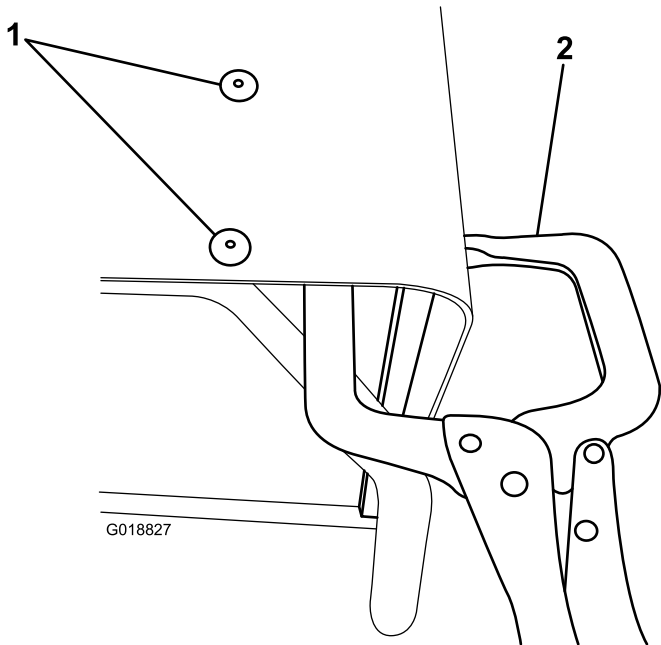

Figure 4
10. Using the 2 holes on the front of the reinforcement bar as a guide, drill the 4.75 mm (3/16 inch) holes from the inside of the bed (Figure 4).
11. Install 2 pop rivets in the previously drilled holes (Figure 4).